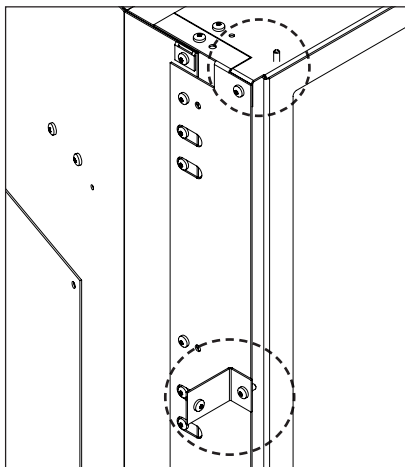

Figure 41: Panel Bracket Installed and Pin Location
1. Using the supplied hardware install a Trimmable Panel Bracket, on its short leg, onto each side of the stove using a T-20 Torx screwdriver. See Figure 41 for the screw location and bracket orientation.
2. Install the Trimmable Panel, **WITH THE FLANGES FACING OUT**, onto the Side Extensions and in front of the Panel Brackets by hooking the Panel's top flange onto the alignment pins on top of the Top Extension (See Figure 41).